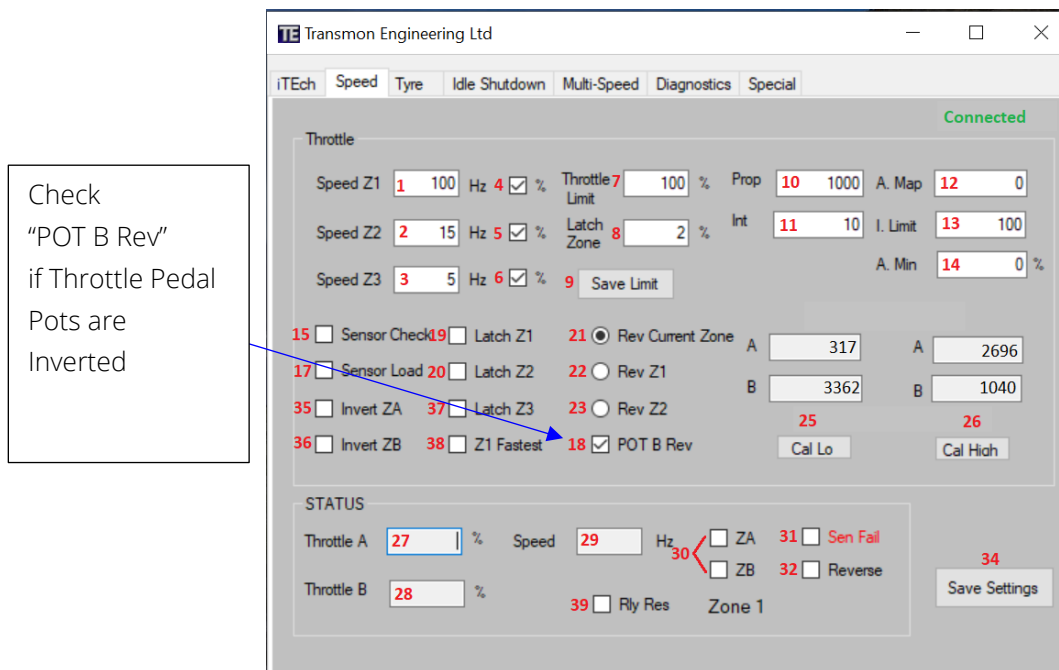

Figure 9: Speed Manager Control Unit Speed Settings and Status Tab
- Walk through each of the Speed Settings to ensure they match the default settings below Figure 9
- If the Pot A and Pot B are Inverted, be sure to check POT B Rev check box (item 18 in **Figure 9**).